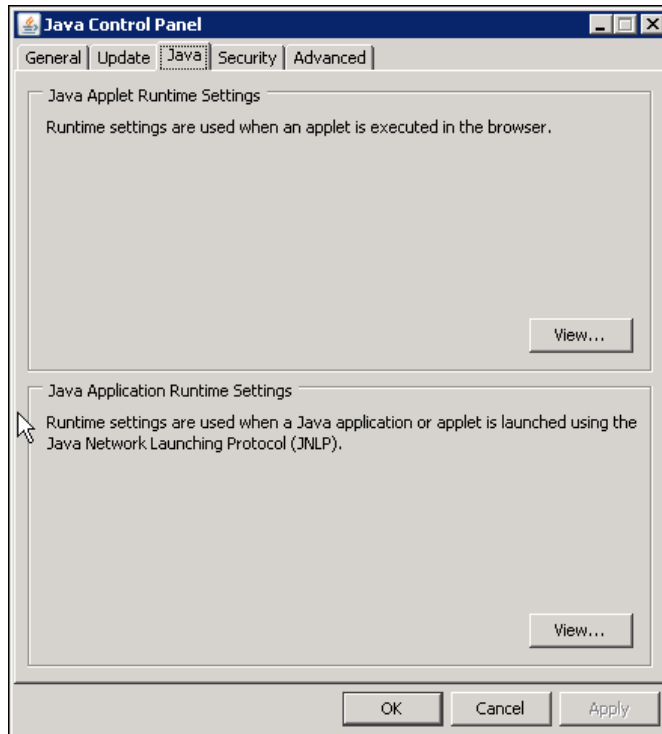

Figure 8-3 Java Control Panel
2. Click the **Java** tab (see Figure 8-3).